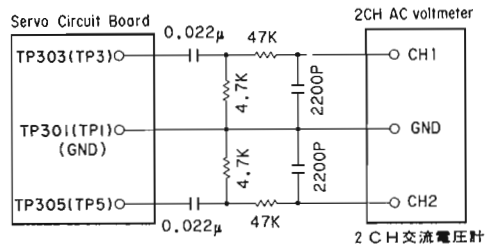

Fig. 3
- ③ Connect the test filter and two CHANNEL AC voltmeter to the Servo circuit board as shown in fig. 3 (CH1=TP303, CH2=TP305 and GND=TP301).
- ④ Select Mode 5 (ref. page 14).